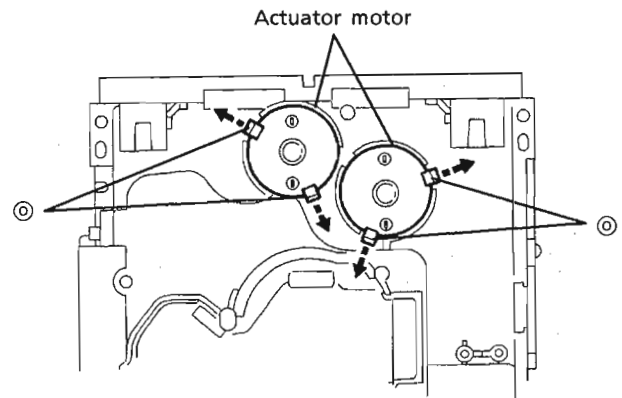

Fig. 46
5. Reverse the chassis ass'y and widen 4 poles ④ which secure both actuator motors to its arrows to remove the actuator motors. (See Fig.46.)